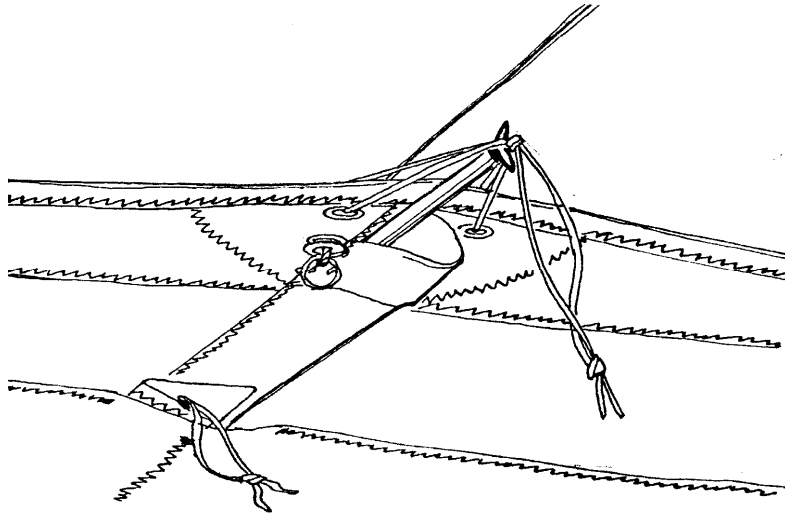

Fig.31
3.8. Check that each of the reflex wires are free from the batten tension leech lines and the reflex safety ring is flush with the bottom of the sail - for Stranger (Fig.31).